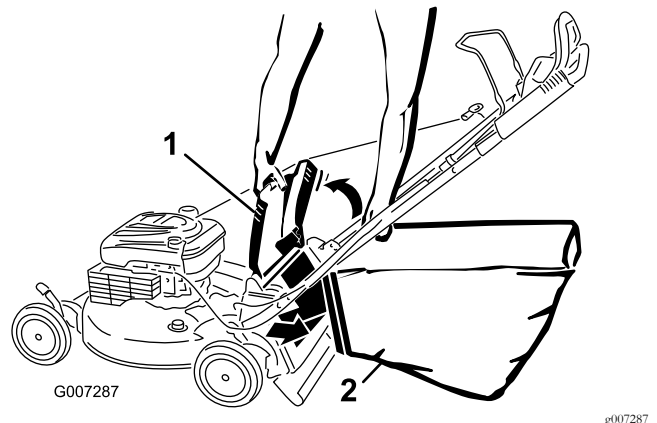

Figure 25
4. Hang the upper front edge of the bag from the grass-bag pins on the notches of the handle brackets (Figure 25).